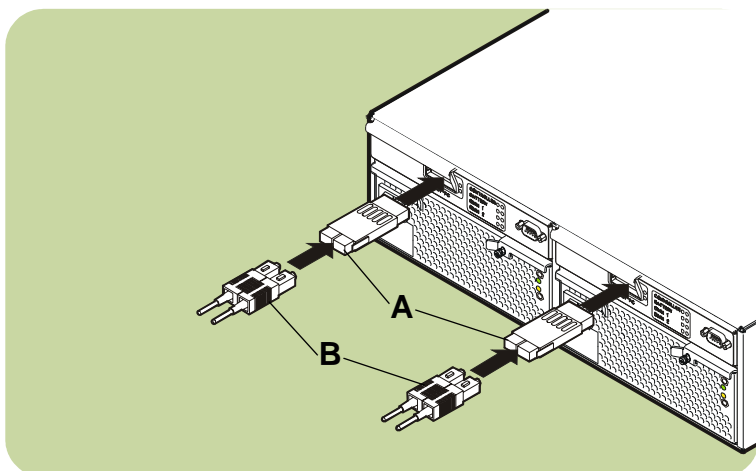

Fig. 40. Connecting the FC optical cables
4. Connect the GBICs to the HOST FC connectors (see Fig. 40, A).
5. Connect the optical Fibre Channel cables (B) to the GBICs and to the host, hub, or switch.